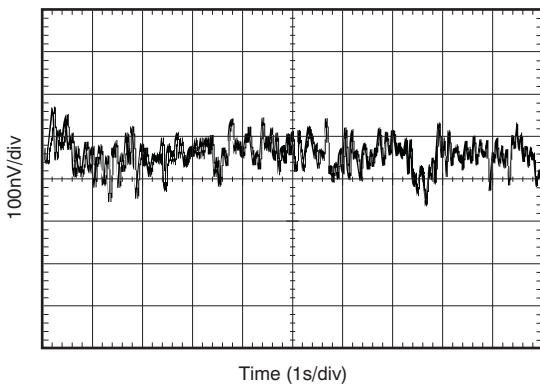

Figure 9. 0.1-Hz to 10-Hz Noise
0.1-Hz to 10-Hz Noise	Figure 9